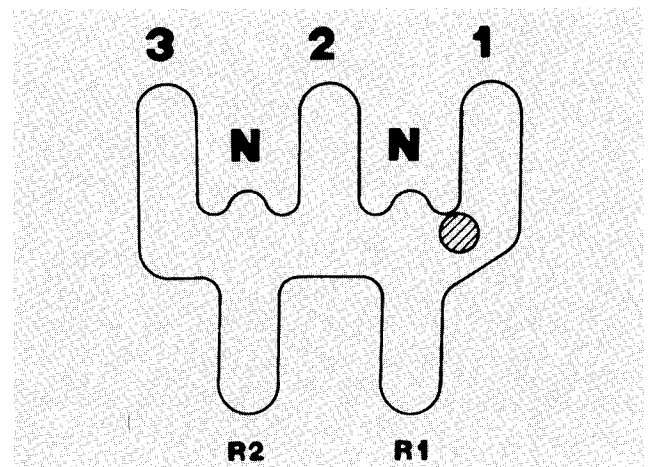

Figure 7
6. Move wheel drive control lever onto the hump between N and 1 (Fig. 7). Hold wheel drive control lever in this position — on hump.